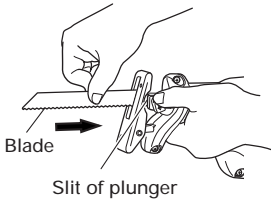
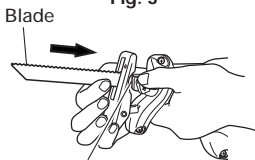

Fig. 3
Fig. 4
- (3) Insert the saw blade all the way into the small slit of the plunger tip with the lever pushing. You can mount this blade either in the upward or downward direction. (Fig. 3, Fig. 4)